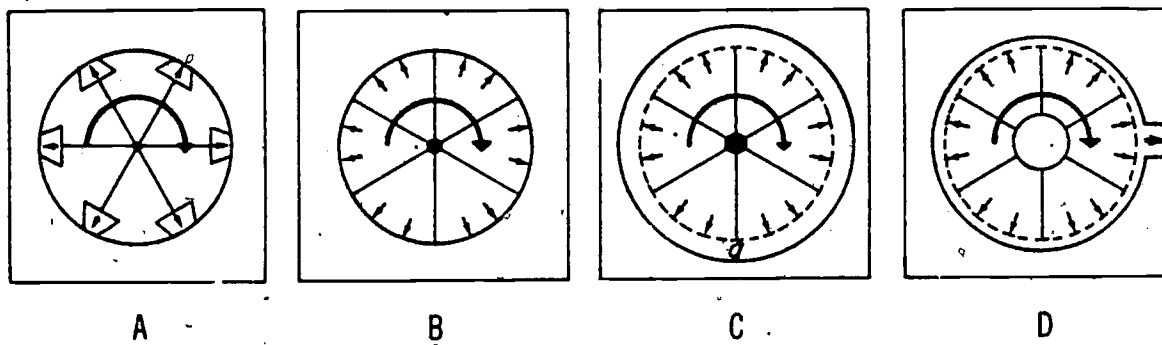

Figure 10. The principle of the centrifugal pump.
a number of bottomless buckets rotating about a center, as shown in detail A, figure 10. The drum wall against which these buckets rotate forms a continuous bottom. As the buckets rotate, the water is held against this continuous bottom by centrifugal force.
3. Now, suppose that the buckets are arranged in pie-shaped fashion as illustrated in detail B, figure 10. When the buckets rotate, they produce the same effect as a paddle wheel revolving in a drum-shaped container. Because of centrifugal force, there is a continuous liquid pressure all over the circumference of the container.
4. Let us further suppose that we have increased the diameter of the container, as indicated in detail C, figure 10. The purpose is to provide a space (a, detail C) for liquid between the ends of the paddles and the drum. The wedge-shaped buckets now have a liquid bottom, but the action remains the same as before. The rotation of the liquid in the buckets, because of
5. If an opening were made in the drum, this pressure would cause the liquid in the space (a) to be discharged. Now, let us go a step further and suppose that we provide a central opening in the container whereby the buckets will be continuously filled with liquid; also, let us provide a source of power to rotate the paddles. These additions make possible a continuous flow, as illustrated in detail D, figure 10.
6. The centrifugal pump has two major disadvantages: (1) It has a comparatively low efficiency and (2) it is unable to discharge air or vapor. However, its advantages more than offset its lower efficiency. The inability of the pump to discharge air can be overcome by correct piping installation and proper operation practices. In some cases you will find that the pump has not been correctly installed to provide for air elimi-